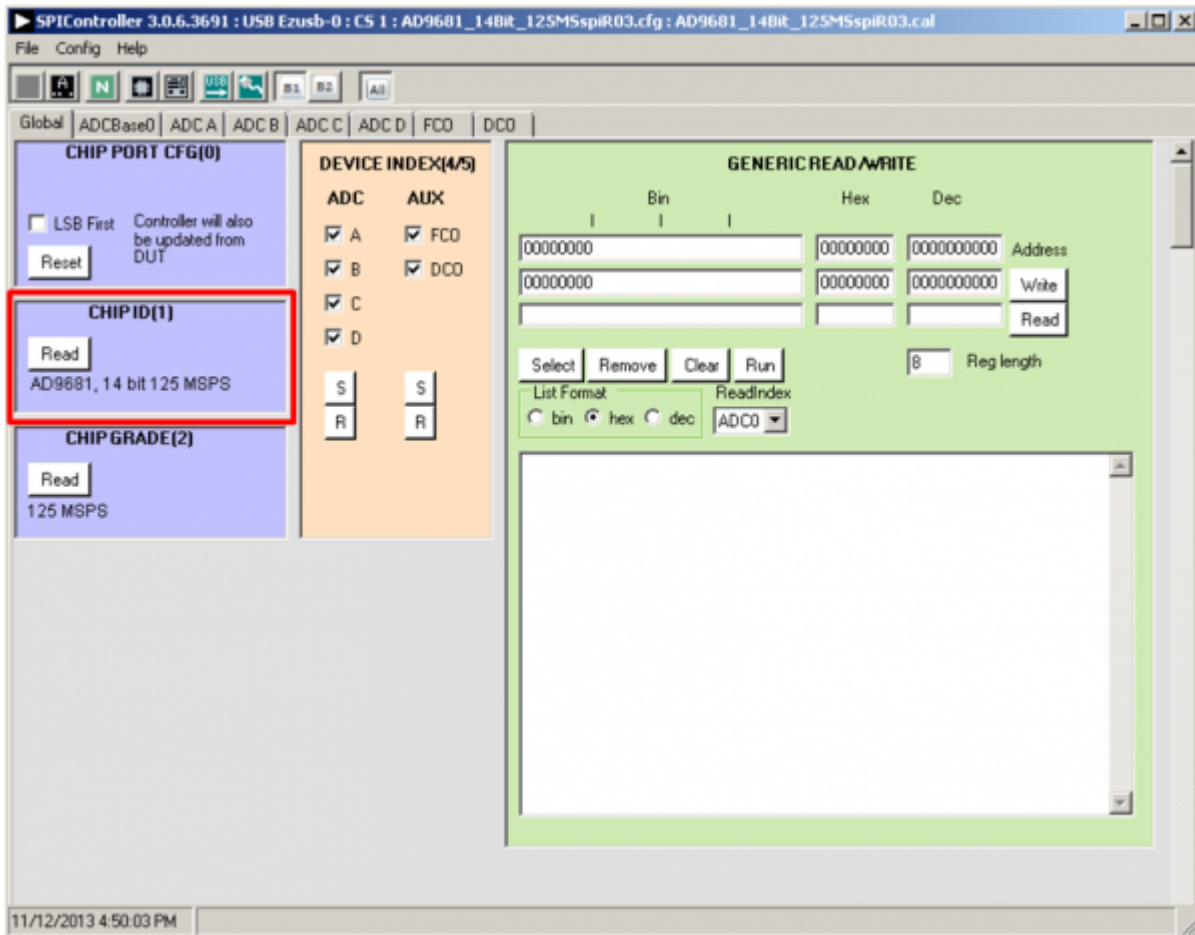

Figure 7.
1. Open the SPI controller software by going to the **Start** menu or by double-clicking the **SPIController** software desktop icon. If prompted for a configuration file, select .cfg file whose name begins with AD9681. If not prompted, check the title bar of the window to determine which configuration is loaded. If necessary, choose **Cfg Open** from the **File** menu and select the appropriate file based on your part type. Note that the **CHIP ID(1)** box should be filled to indicate whether the correct SPI controller configuration file is loaded (see Figure 7).